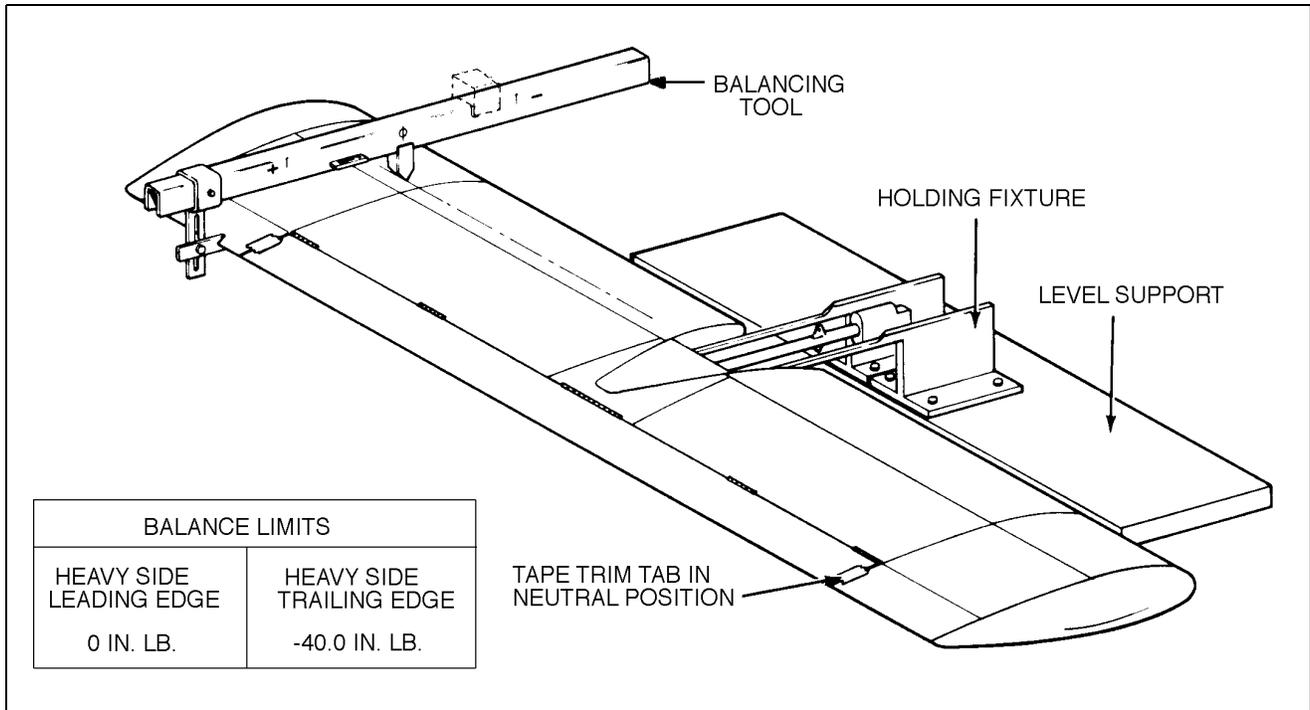

Figure 55-2. Stabilator Balancing
2. Balancing Stabilator (Refer to Figure 55-2)